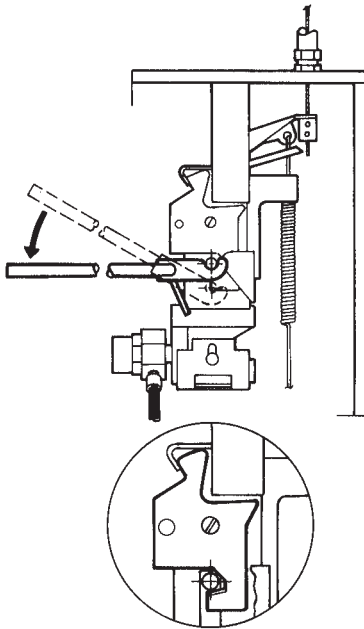

FIGURE 8-6
18. Cock the regulated release mechanism using cocking lever (Part No. 14995 or 435603/Part No. 441042 or 441041). See Figure 8-6.